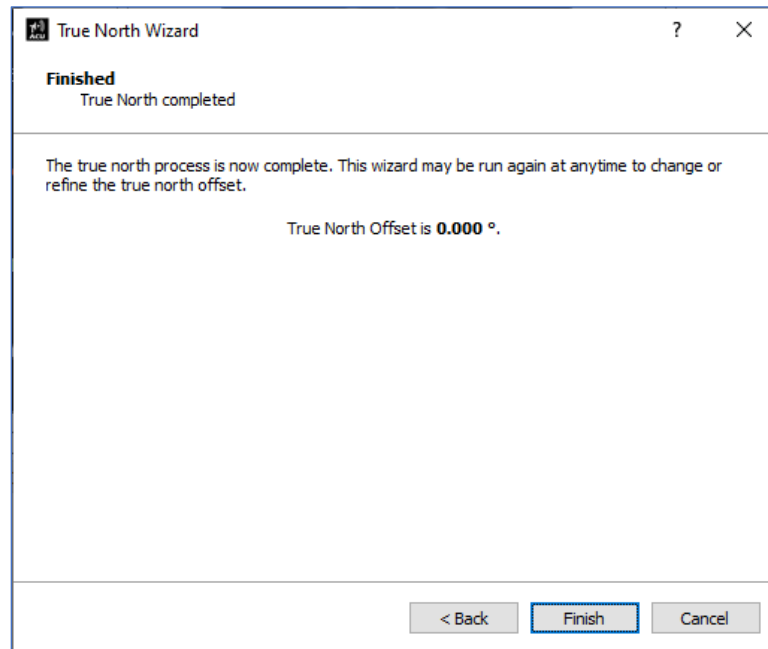

Figure 63: True North Wizard, Finished
8. This completes the True North wizard setup. The True North AZ Offset has been calculated, as shown in Figure 63. When the AZ Axis position dial reads 0.0°, the Antenna Azimuth Axis is pointed to calibrate to North.